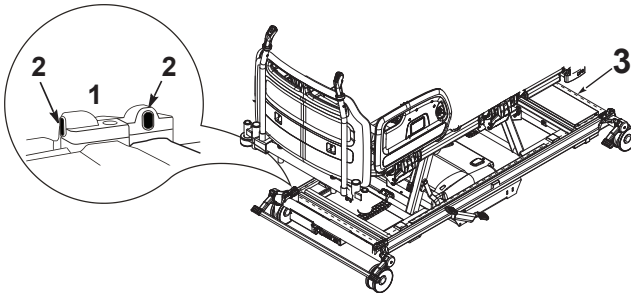

Figure 29: Anti-entrapment sensors and beam
*Clean the lenses (See Figure 29, item 2) of the infrared sensors regularly using a soft dry cloth.*